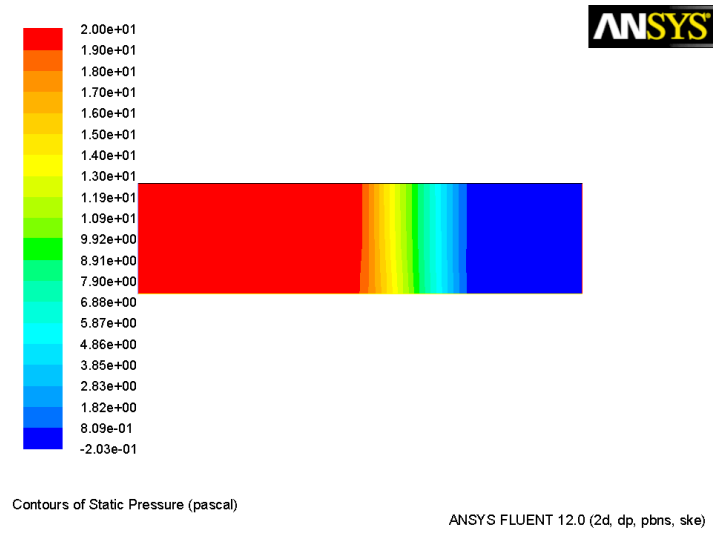

Figure 4: Pressure Contours
- (c) Click Display (Figure 4) and close the Contours dialog box.
Figure 4 shows that fluid-2 is causing pressure drop in the system and thus acting as a porous plug. Figure 5 shows that the fluid flows preferentially near the bottom of the channel due to the effect of the source term on the axial momentum of the fluid.